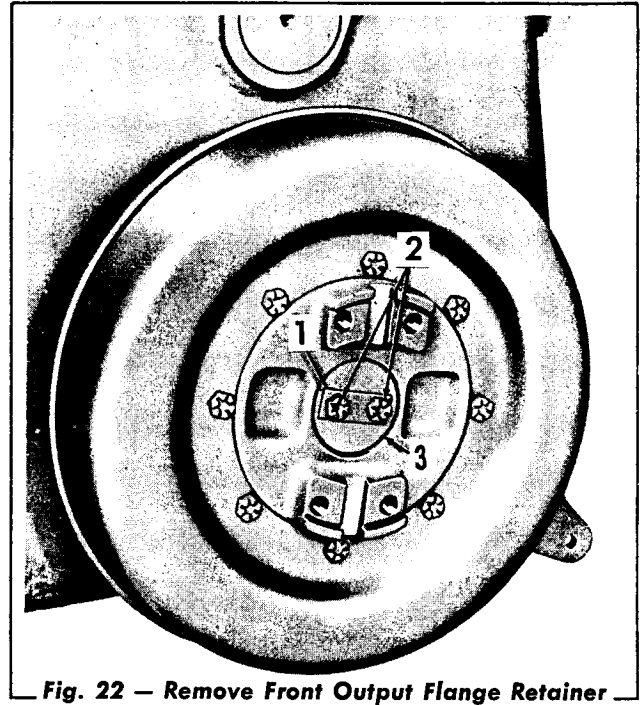

Fig. 22 — Remove Front Output Flange Retainer
5. Flatten the corners of the lockstrip (Fig. 22). Remove the self-locking capscrews, the lock strip, and the flange retainer washer.